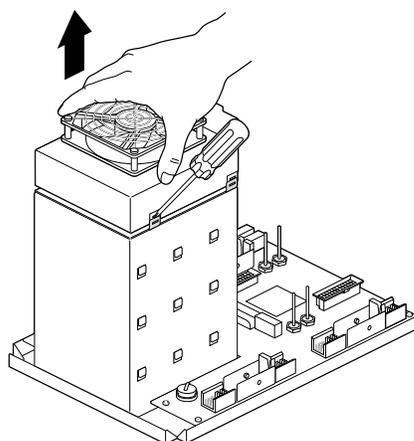

Figure 7-27 Releasing the System Fan from the Back of the Drive Bay
2. Using a flatsided screwdriver, slide the tip of the screwdriver between the tab and fan, as shown in Figure 7-27.